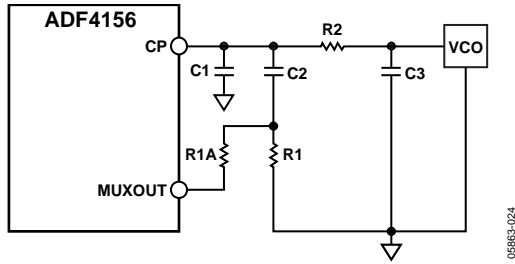

Figure 23. Topology 2—Fast-Lock Loop Filter Topology
- Topology 2: Connect an extra resistor (R1A) directly from MUXOUT, as shown in Figure 23. The extra resistor must be chosen such that the parallel combination of an extra resistor and the damping resistor (R1) is reduced to $\frac{1}{4}$ of the original value of R1 (see Figure 23).